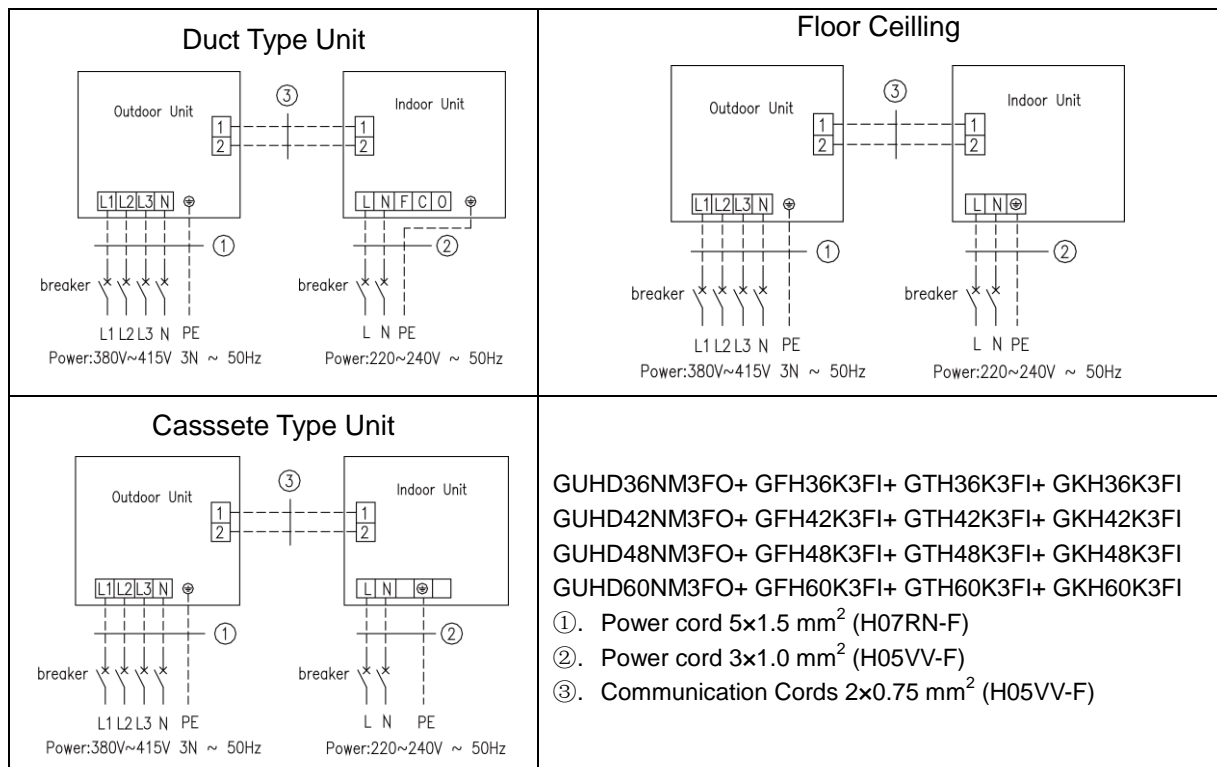

Figure 3-2-9
- ①. The power cord and the wire of the fresh air valve are high-voltage, while the communication cord and connection wire of the wired controller are low-voltage. They should run separately against electromagnetic interference.
- ②. The high-voltage and low-voltage lines should pass through the rubber rings at different electric box covers.
- ③. Do not bundle the connection wire of the wired controller and the communication cord together, or arrange them in parallel, otherwise improper operation would occur.
- ④. The high-voltage and low-voltage lines should be fixed separately and securely, with internal big clamps for the former and small clamps for the latter.
- ⑤. Tighten the indoor/outdoor connection cord and power cord respectively on the terminal boards with screws. Faulty connection may cause a fire.
- ⑥. If the indoor unit connection cord (to the outdoor unit) and power supply are wired incorrectly, the air conditioner may be damaged.
- ⑦. Connect the indoor unit connection cord properly based on the corresponding marks as shown in Figure 3-2-9.
- ⑧. Ground both the indoor and outdoor units by attaching a ground wire.
- ⑨. Unit shall be grounded in compliance with the applicable local and national codes.
(6) Electric wiring of outdoor unit side